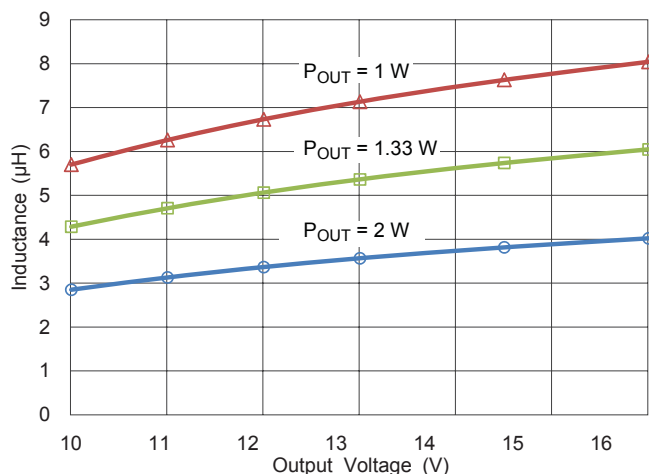

Figure 10. Minimum inductance for CCM as a function of output voltage (at $V_{VIN} = 5.5$ V and $f_{SW} = 1$ MHz)
Figure 10 shows that the minimum inductance required to ensure CCM operation increases with higher output voltage (hence also with higher duty cycle), for a boost regulator with fixed input voltage and output power. Note that the chart is calculated at an f_{SW} of 1 MHz. If the frequency is reduced by half, to 500 kHz, the inductance requirement is doubled.
- Inductance. This usually determines whether the boost converter operates in DCM or CCM. Refer to figure 10, or calculate minimum required inductance using the equations provided.